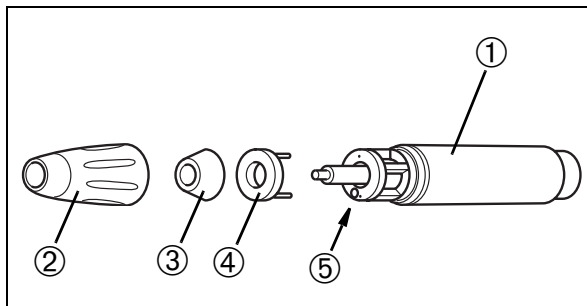

Fig. 64
If necessary, the front section of the handpiece (Fig. 64) can also be dismantled and carefully cleaned. To do this, unscrew the case ② (Fig. 64).
You MUST ensure that the LED ring ④ (Fig. 64) is plugged in the right way round.
The marks ⑤ (Fig. 64) on the handpiece and the LED ring must match.